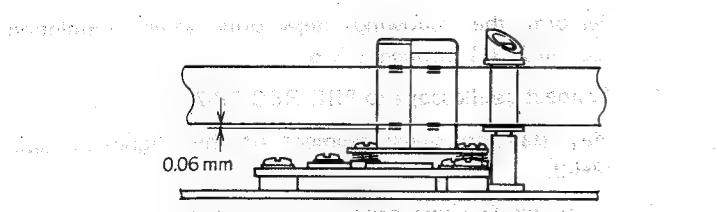

Fig. 2-47 Audio/control head height
10. Carefully and evenly adjust screws A, B and C to align the audio/control head height with the tape as shown in Fig. 2-47.